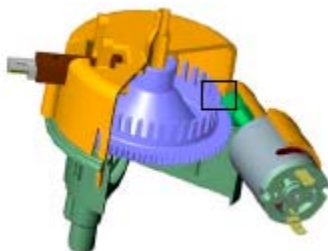

Fig. 9 Water selector internal
- This motor drives the water rotation disc with a plastic worm (Fig.9/10).